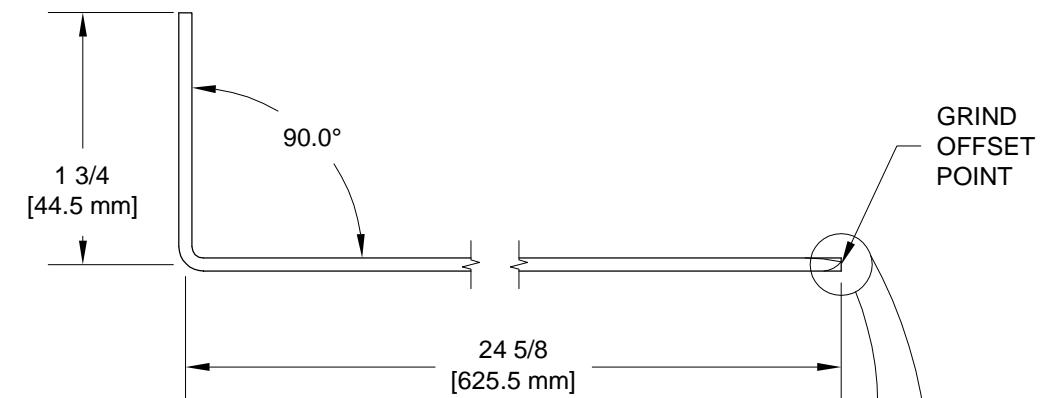

FIGURE 3: FF-01408A-HP
Step 3: Fabricate the FF-01408A-HP & C-HP Hinge Pins from SSP-120 Stainless Pin using the dimensions shown in Figure 3 and Figure 4.
Step 4: Grind the end of each hinge pin to an offset point using the dimensions shown in the detail view of Figure 3 and Figure 4. Note the orientation of the offset in relation to the bend direction. Polish the ground end of each hinge pin with a Scotch-Brite wheel.